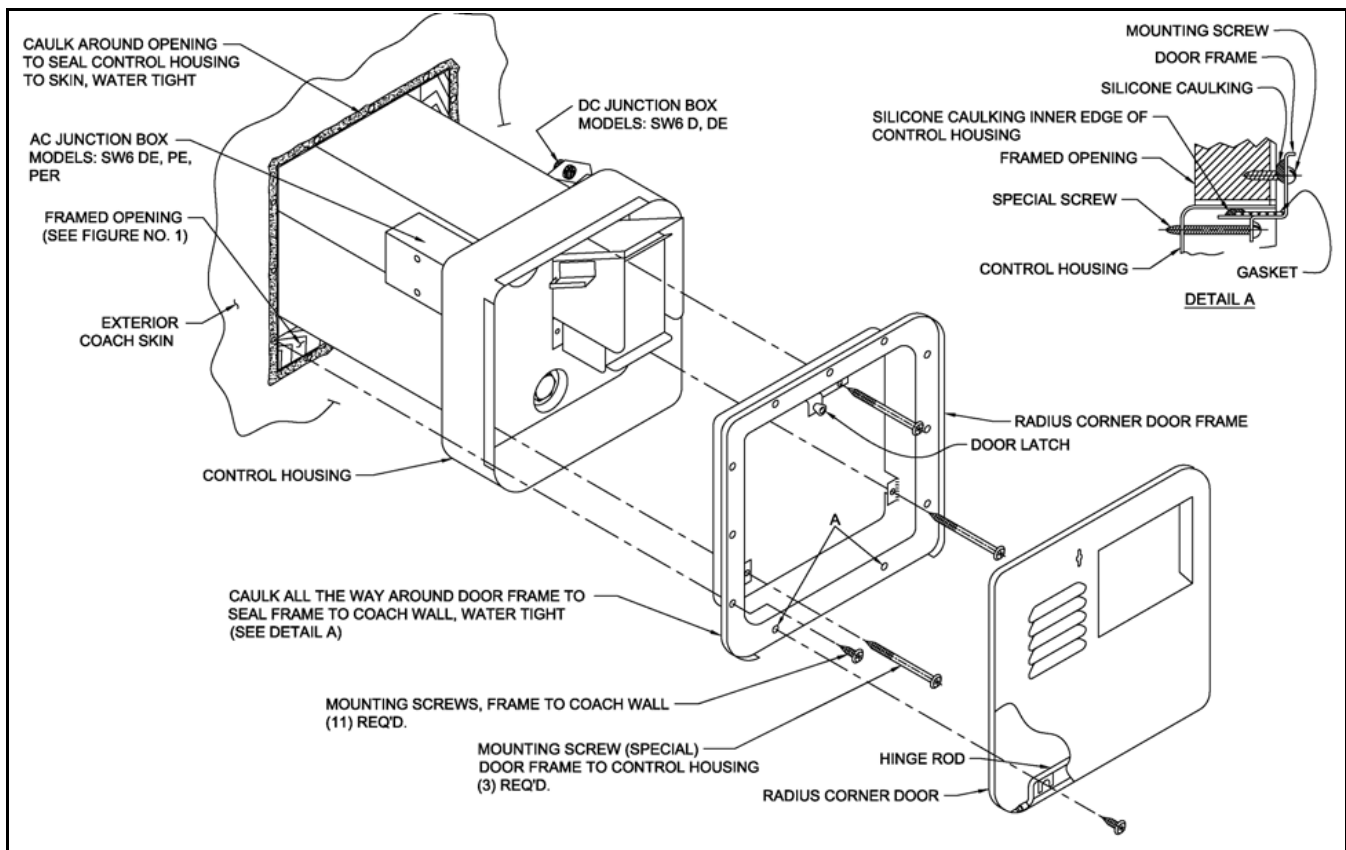

Figure 3
(See Figure 3 for illustration)
F. Fit the door frame into control housing (over the caulking already applied) and pull frame tight to control housing using the three (3) No. 8-15 x 3 1/2" screws provided.
G. Push water heater into framed opening until back side of door frame (now attached to control housing) is against the side of the coach and firmly attach with screws around the perimeter of the frame. **NOTE:** The two (2) holes in bottom of frame identified as "A" in Figure 3 are also used to mount door hinge to the frame.